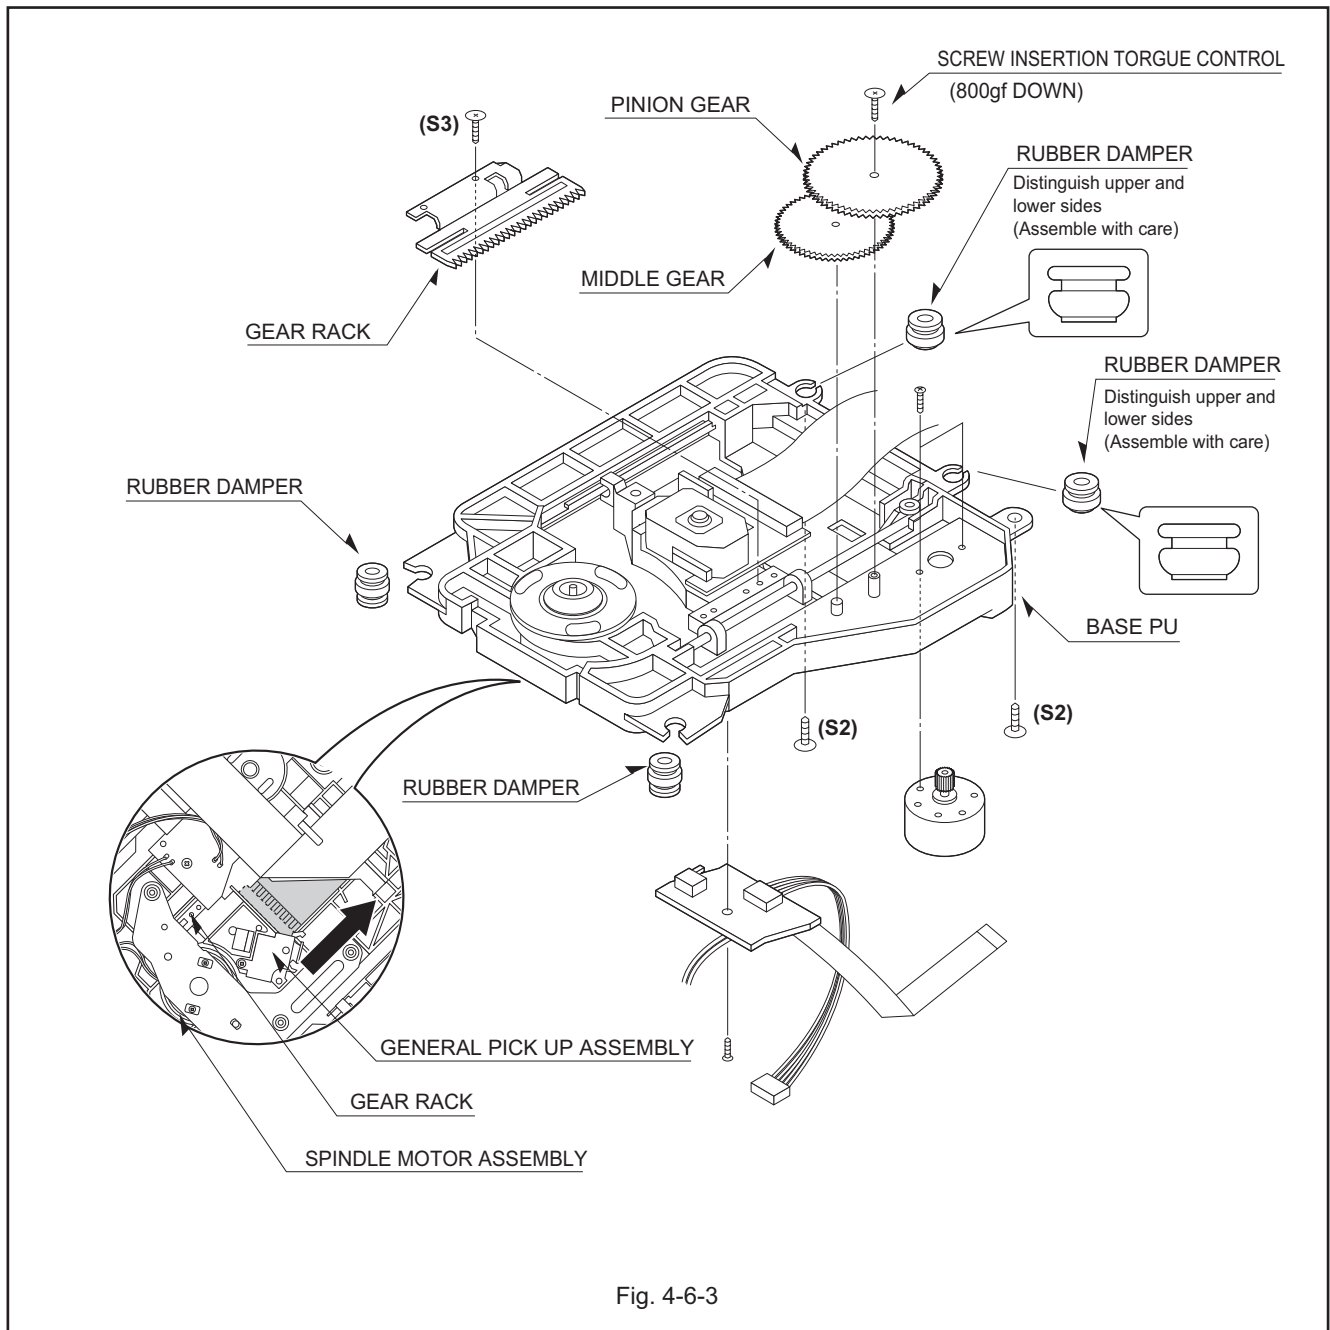

Fig. 4-6-3
3.Base Assembly Sled (Fig. 4-6-3)
4. Rubber Rear (Fig. 4-6-3)